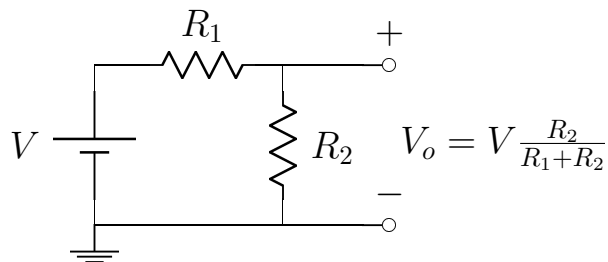

Figure 3: *Voltage Divider Circuit for use in part 3.*
3. the voltage divider network shown in Fig. 3 using $R_1 = R_2 = 1\text{ k}\Omega$ and $V = 10\text{V}$.